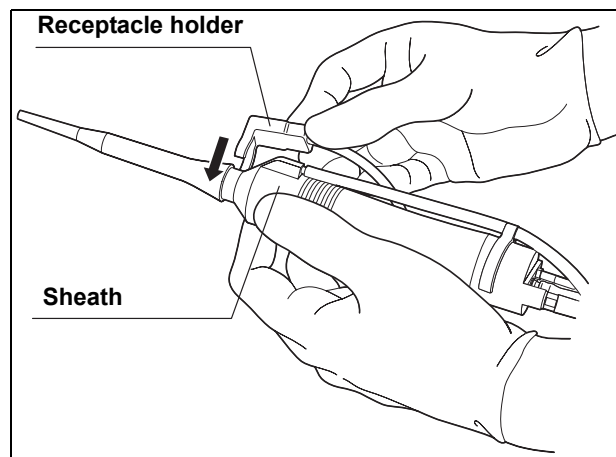

Figure 4.23
4. Fit the holder onto the sheath (see Figure 4.23).